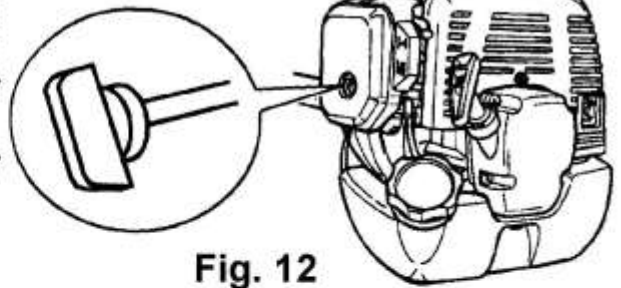
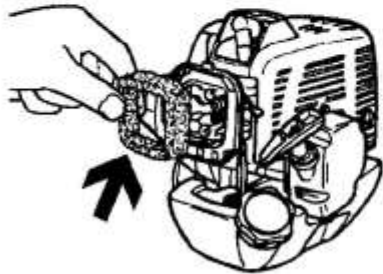

Fig. 12
Fig. 13
**Air filter:** Clean air filter regularly. Unscrew cover (Fig.12) and remove foam filter (Fig.13). Wash filter with soap and water and allow drying before replacing. Fit new filter if damaged.